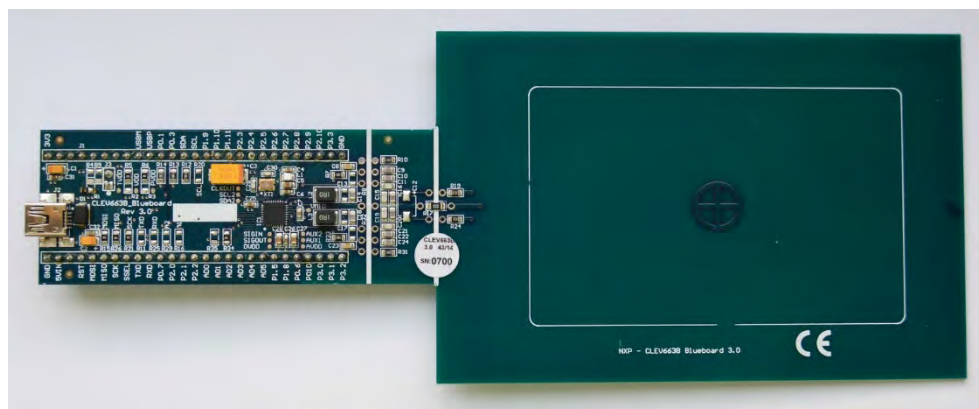

Fig 1. Picture of RC663 demo board
- A CLEV663B demo board (called Blueboard) provided by NXP. This is the primary platform for the RC663 reader chip and the current version is Blueboard v3.0 (see Fig 1). This board has connectors which are designed to exactly fit the ones of the companion, the LPCXpresso LPC 1769 development board.